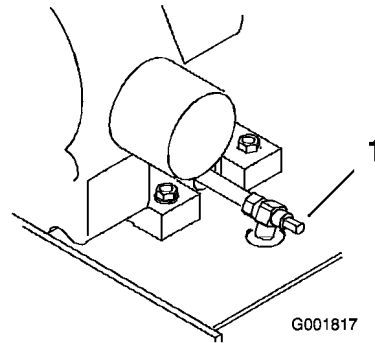

Figure 40
5. Place a pan below the oil drain. Rotate the oil drain valve to allow oil to drain (Figure 40).